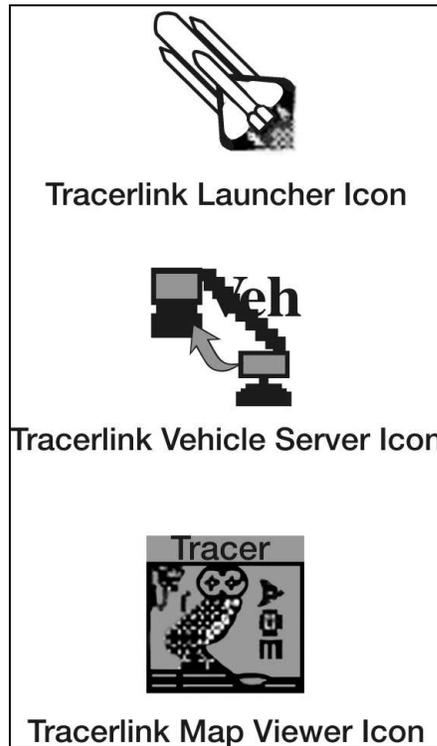

Figure 3-107. TracerLink Icons on Desktop
- a. Double-click on the TracerLink icon located on the desktop to start the TracerLink application (see Figure 3-107). TracerLink connects to the MTS Messenger program over a TCP/IP socket to receive position data.